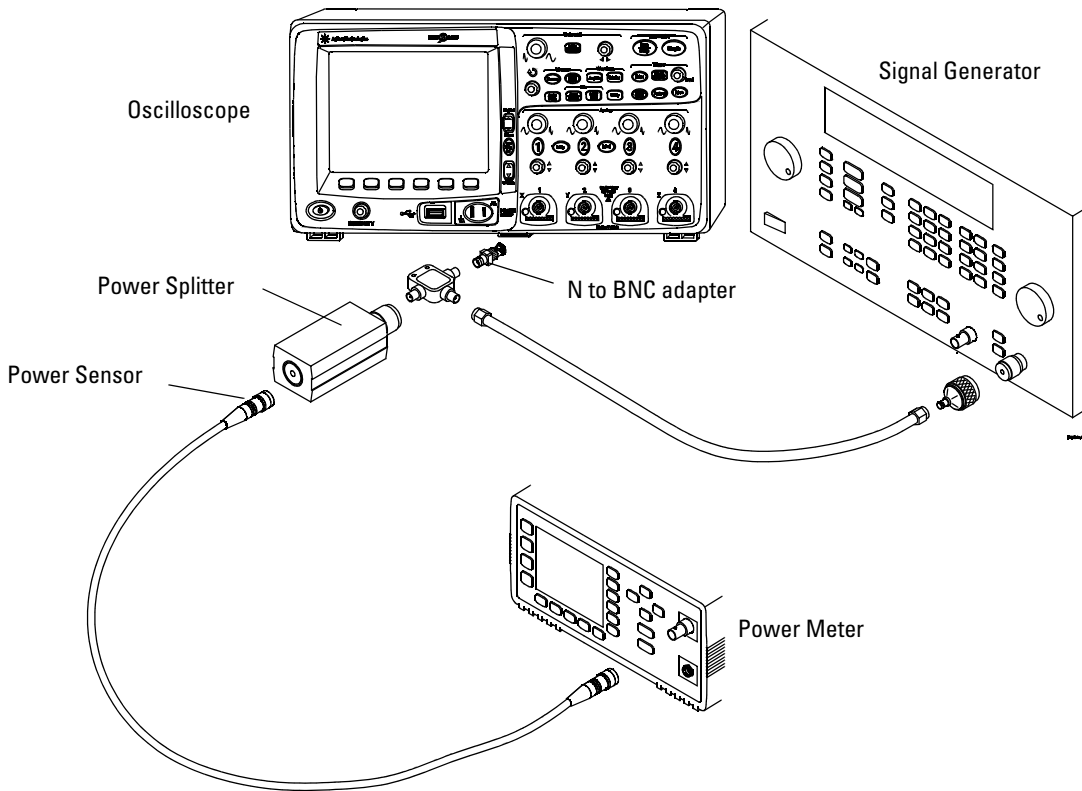

Figure 5 Connect equipment
- 1 Connect the equipment (Figure 5).